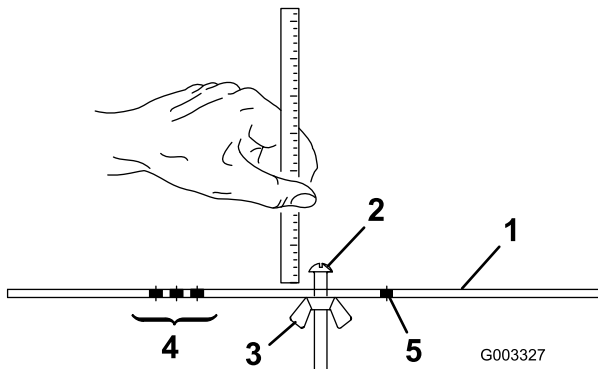

Figure 17
2. Loosen nut on gauge bar (Figure 17) and set adjusting screw to desired height-of-cut. Distance between bottom of screw head and face of bar is height-of-cut.